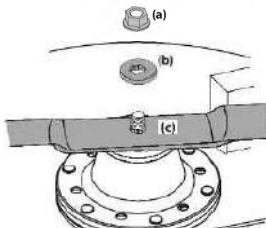

Figure 4-23
2. Remove the flange lock nut (a) and flat washer (b) from the spindle shaft and remove the blade (c). See Figure 4-23.